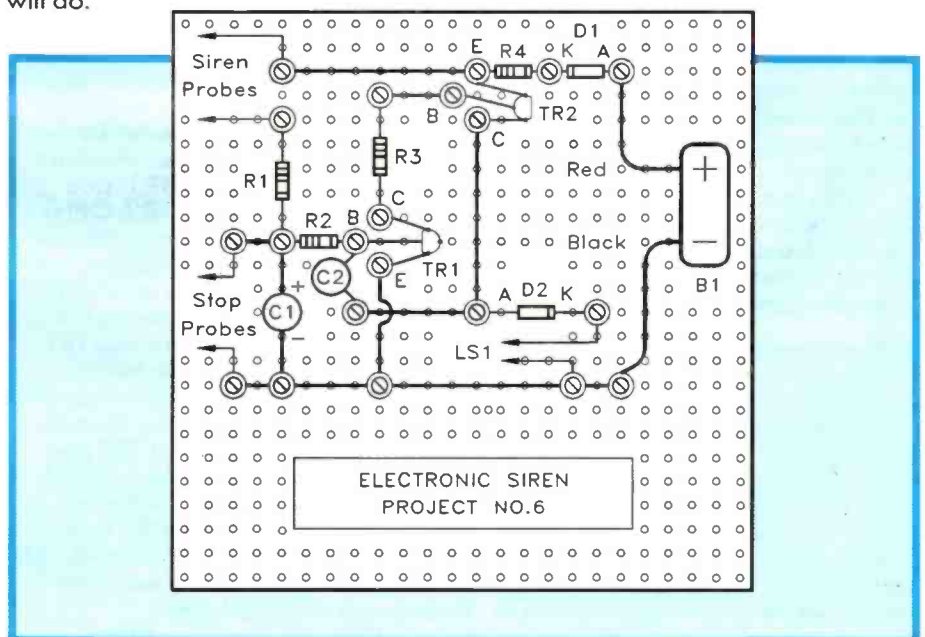

Figure 2. The component guide-sheet for the Electronic Siren.
1. Cut out the component guide-sheet provided with the kit (which is a full-size copy of Figure 2), and glue it to the top of the plastic board. Paper glue or gum should be okay. Do not soak the paper with glue, a few small 'dabs' will do.